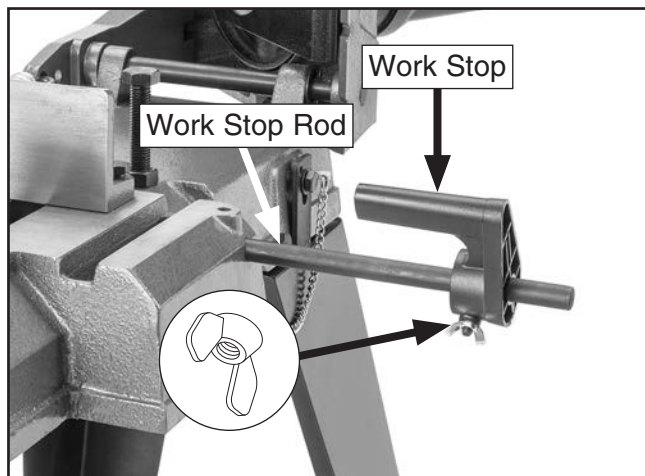

Figure 17. Work stop secured on rod.
12. Slide work stop onto rod and secure with pre-installed wing nut (see **Figure 17**).